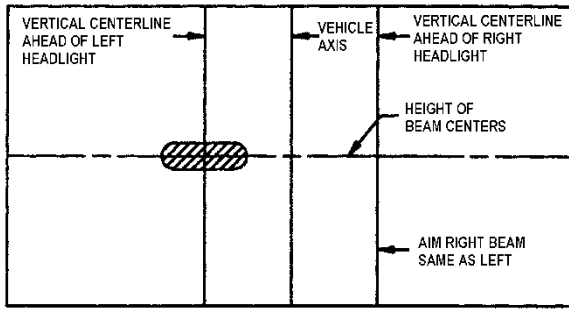

FIGURE 95: UPPER BEAM HIGH-INTENSITY ZONE PROPER LOCATION ON SCREEN 06503
4. High beam headlamps are aimed so that the center of the high-intensity zone is located at the horizontal and straight ahead vertically (Figure 95).